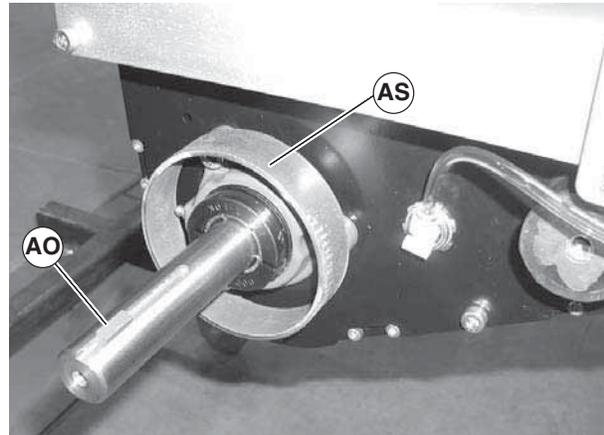

Figure 96
4. Remove spacer ring (Figure 96, item AS) and key (AO).